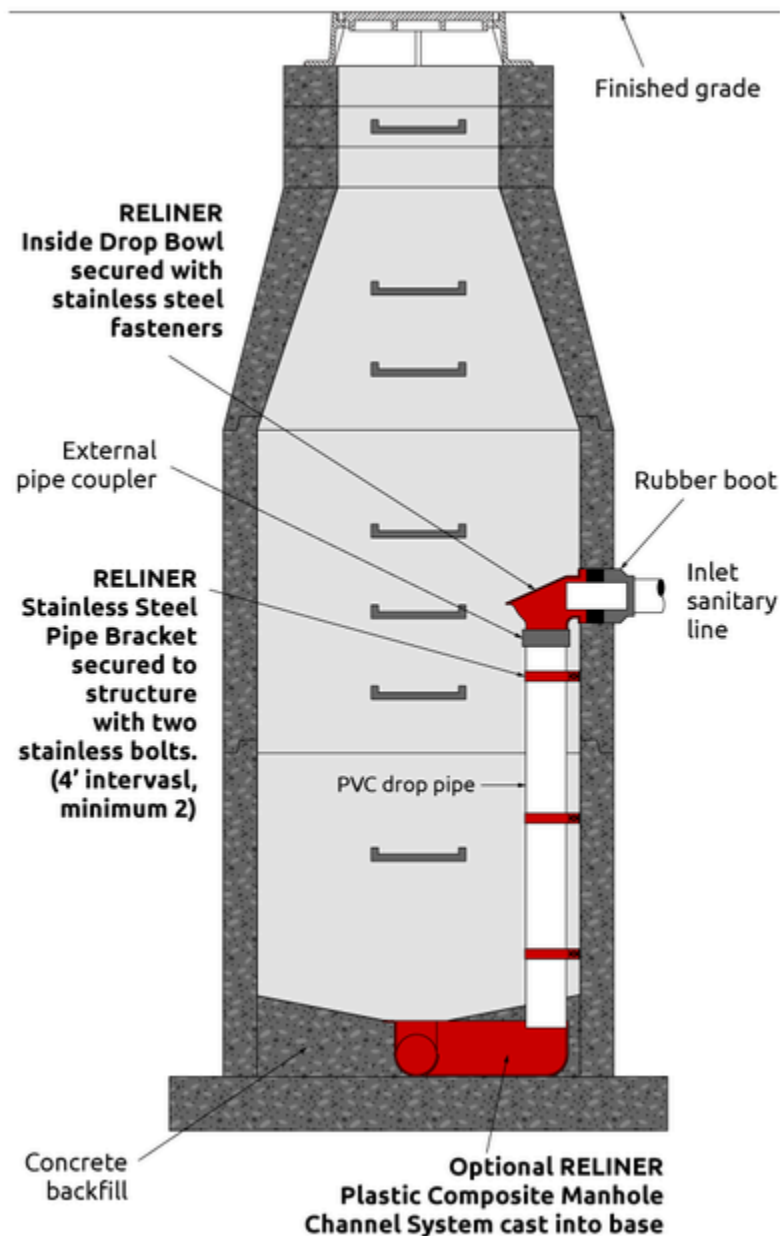

Figure 7 Manhole components
- Figure 7 Manhole components © Reliner, used with permission.